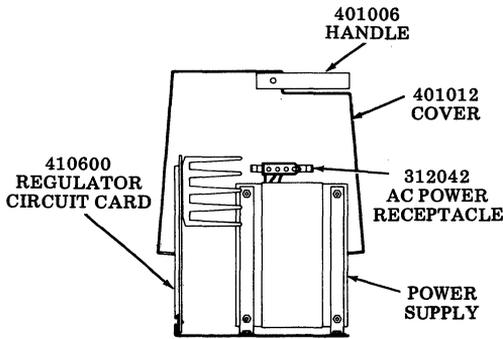

Fig. 5
- (d) Slide the cover completely off of the power supply and place the cover aside. Remove the 403591 insulator facing the noncomponent side of the 410600 regulator circuit card (Fig. 5).